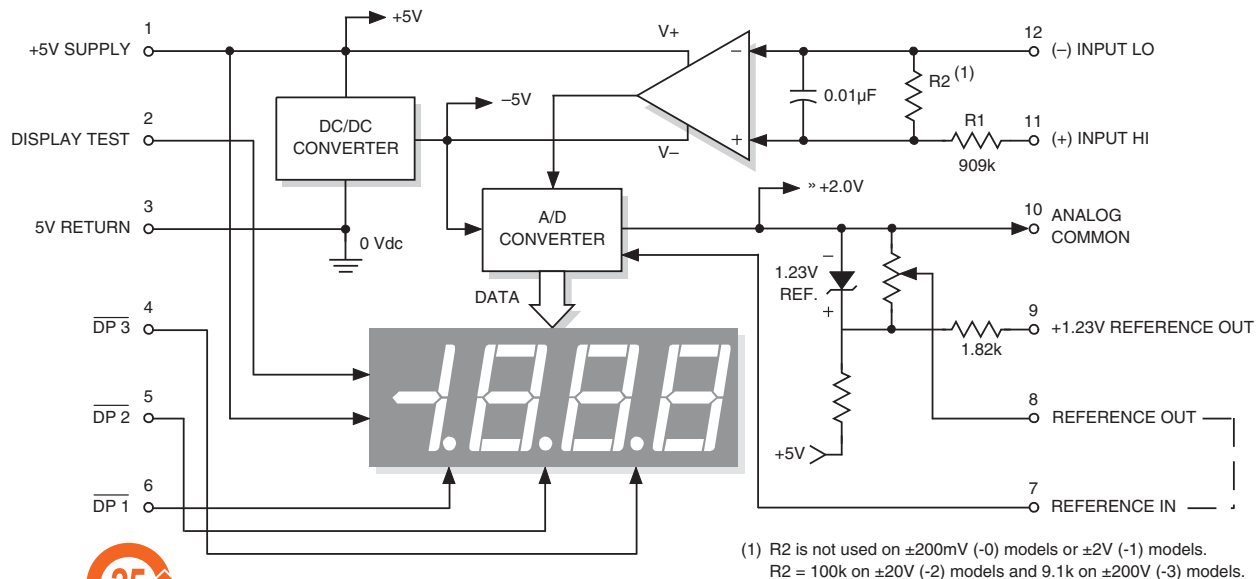

Figure 1. DMS-30PC Series simplified schematic
① Applies for transient or continuous overvoltages applied to (+) INPUT HI (pin 11) with (–) INPUT LO (pin 12) properly connected. Pin 12 is not overvoltage protected (see Figure 1). Voltages applied to pin 12 should not exceed the supply voltage.
② See Technical Notes.